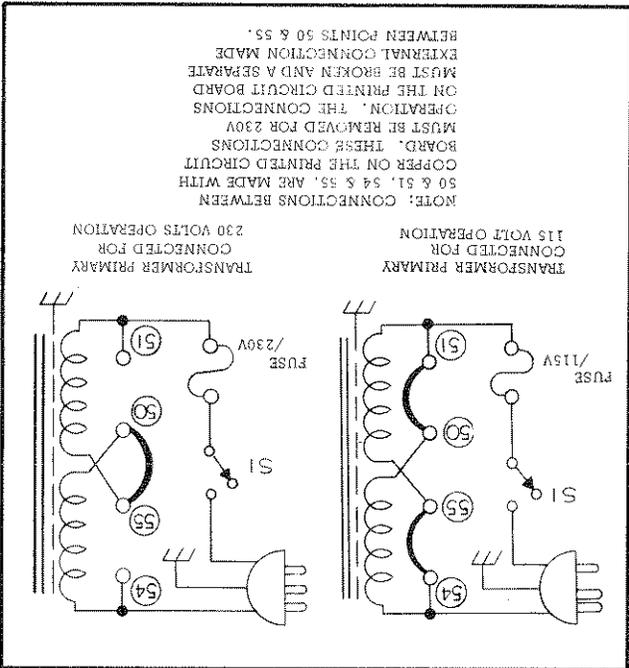

Figure 2-3. Primary Connections
(See Figure 2-3)
b. Break the copper between 54 and 55 and also between 50 and 51 on the printed circuit board. These are shown in Figure 2-3, and are labeled on copper side of printed circuit board.